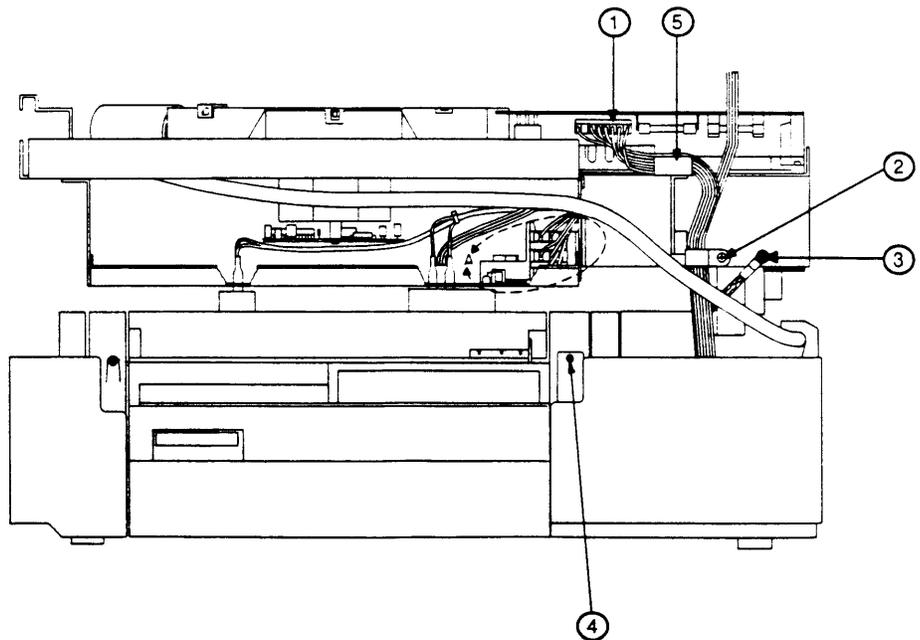

FIGURE 2-42
15. Remove the screw from the metal tab at the rear of the manual feed assembly (Figure 2-42, #4).